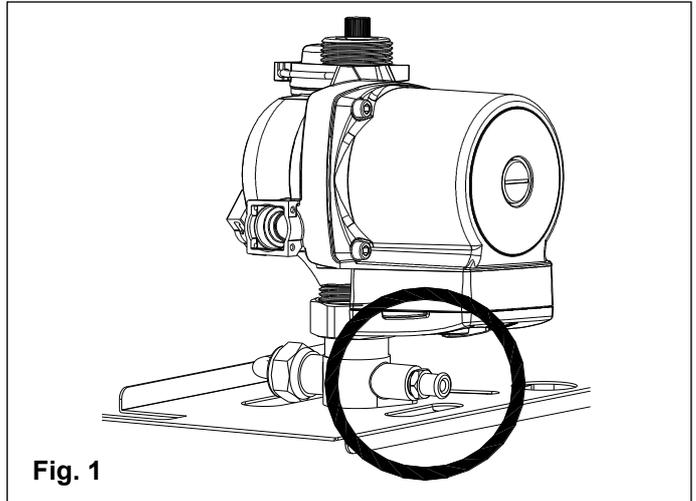

Fig. 1
- Grasp the lower part of the panel and pull it outwards (see fig. 1) and then up (see fig. 2).
- Remove the front panel (see fig. 1 and fig. 2).
- Open the system drain valve (fig. 1).
- **If only the boiler needs to be drained, close the flow/return isolating valves on the heating circuit and open the drain valve R located at the bottom of the boiler on the pump manifold (see fig. 1 );**
Cleaning the main exchanger module and combustion unit (fig. 1)
- Remove and clean the scaling from the ignition and flame detection electrodes, paying particular attention to place them at the correct distance from the burner. Fig 1.
**Safety thermostat (see fig. 1)**
**Heating sensor (see fig. 1)**